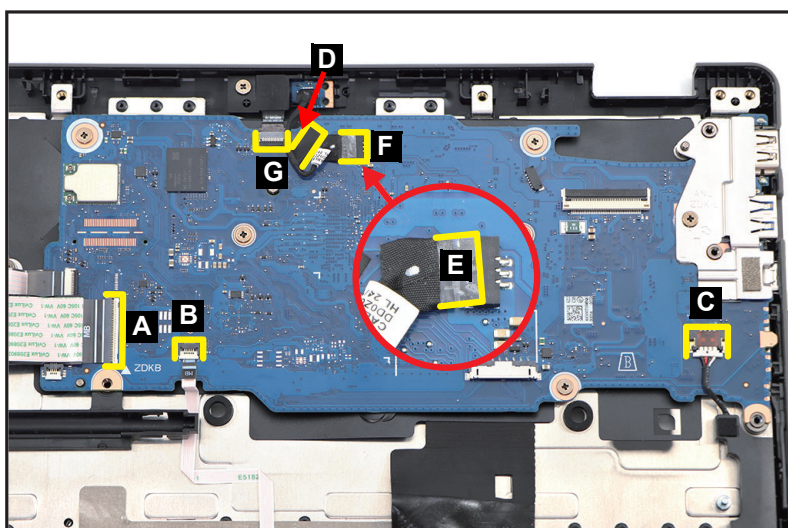

Figure 1-23. Mainboard Removal
7. Disconnect the 36-pin I/O board (L) FFC from the mainboard connector (A) (Figure 1-23).
8. Disconnect the touchpad FFC from the mainboard connector (B) (Figure 1-23).
9. Disconnect the speaker cable from the mainboard connector (C) (Figure 1-23).
10. Detach the tape (D) securing the LED board cable in place (Figure 1-23).
11. Detach the mylar (E) securing the LED board cable connection. Then disconnect the LED cable from the mainboard connector (F) (Figure 1-23).
12. Disconnect the 2nd camera cable from the mainboard connector (G) (Figure 1-23).